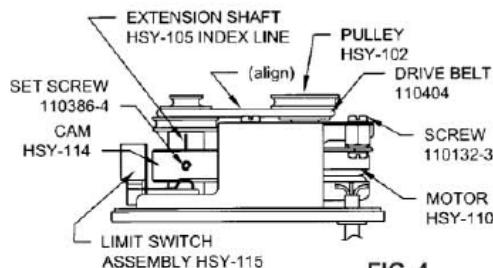

FIG. 4
**8. RHSY Series** pumps are powered by belt-coupled synchronous motors (refer to figs. 4 & 7c). To service this type of pump, **un-plug power cord**, loosen THUMB SCREW 110437 on rear of CASE ASSEMBLY HSY-109 from COVER ASSEMBLY HSY-113. It will then be noted that a machine SCREW 110230-6 and a STAND-OFF 110439 serve to lock the RH pump head assembly and the SY motor assembly to the COVER ASSEMBLY HSY-113. Removal of the machine screw and stand-off permits removal of pump head and/or motor bracket assembly. Loosening the two machine SCREWS 110132-3 holding the MOTOR ASSEMBLY HSY-110- permits adjustment of the drive belt tension (relocates motor position).
Pulley grooves on motor and pump must be in alignment as shown in fig. 4. SET SCREWS 110288-2 in parts HSY-102 and HSY-105 may be loosened as necessary to achieve such alignment. **Tighten screws** after any service adjustment and **replace CASE ASSEMBLY HSY-109** before plugging electric cord into outlet.
rate is controlled by the groove position in which the belt has been placed. Thus in fig. 4, with belt in central position as shown, the pump operates at 300 strokes per minute; with belt on the small-motor-pulley and large-pump-pulley, (fig. 4) it operates at 150 strokes per minute and with the belt on the large-motor-pulley/small-pump-pulley the pump operates at 600 strokes per minute.
**15. CAM ADJUSTMENT.** Your micro  **$\pi$ -petter® PENDANT SWITCH** relates directly to a CAM HSY-114 actuated LIMIT SWITCH ASSEMBLY HSY-115 which is timed to the RH piston suction position; to adjust this CAM, **unplug power cord**, loosen THUMB SCREW on rear of CASE ASSEMBLY HSY-109-1 and remove CASE ASSEMBLY. The CAM timing and height are adjusted by one SET SCREW 110386-4 (see fig. 4). Align SET SCREW in CAM to index line on EXTENSION SHAFT HSY-105. Lower CAM until recessed surface of CAM contacts LIMIT SWITCH ASSEMBLY HSY-115. Tighten set screw. Check for 2SWITCH "clicks" per revolution. **REPLACE CASE ASSEMBLY** before plugging electric cord into outlet.